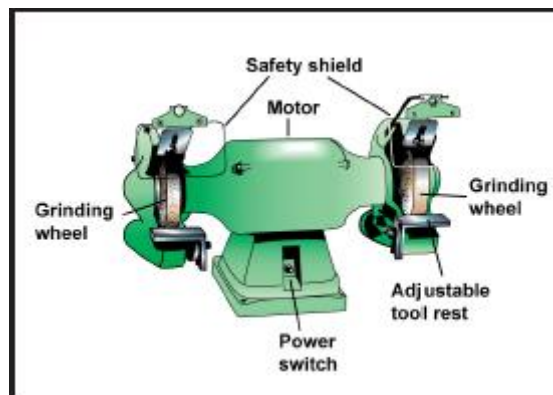

Fig.3.27. bench grinder
- Main parts of a bench grinder include an on/off switch, grinding wheels, safety shields, and adjustable tool rest. See Figure 3.27.